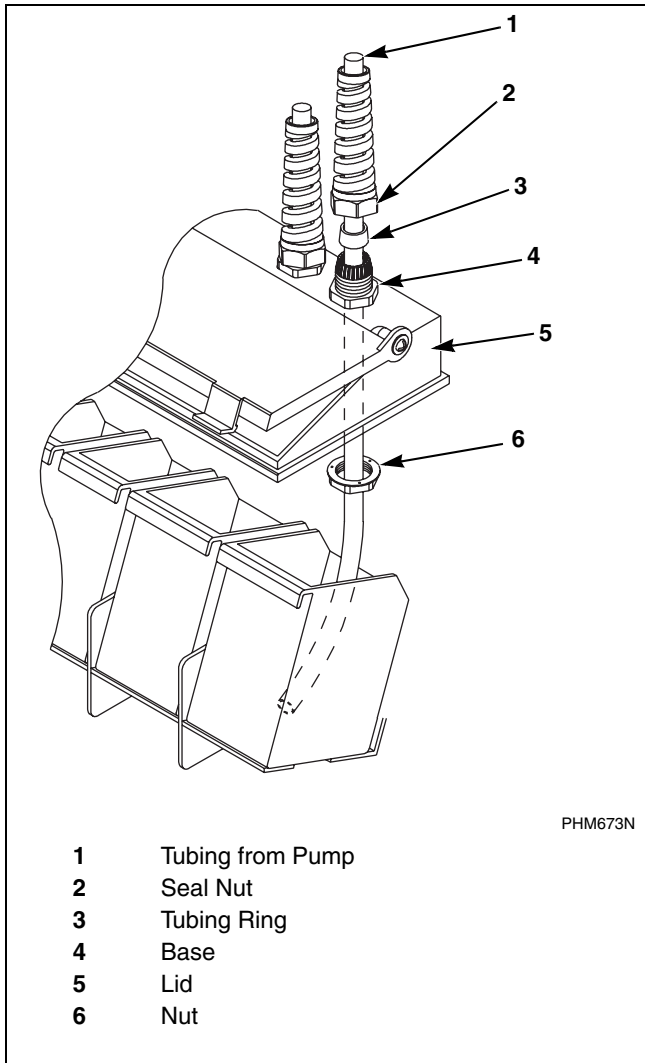

Figure 16
1. Remove plugs from base. See *Figure 16*. Plugs are assembled inside the tubing ring.